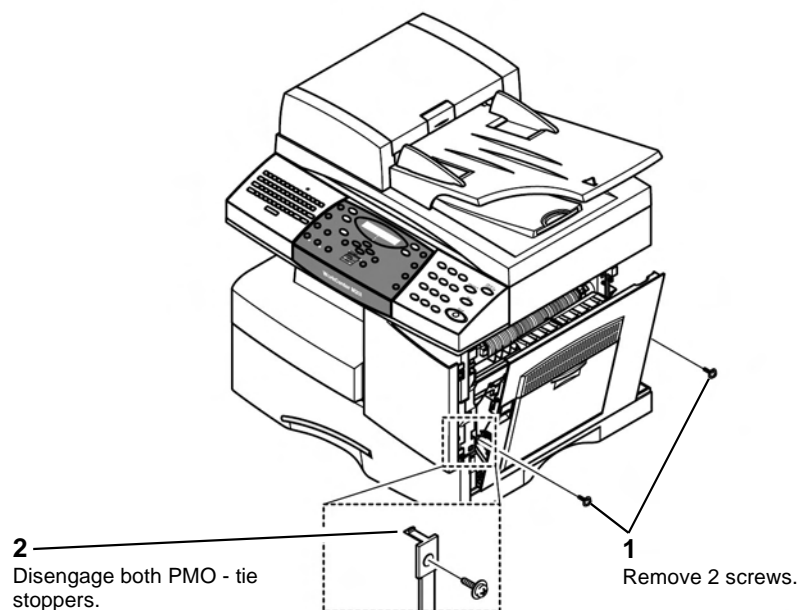

Figure 1 Preparation
NOTE: The M20F and 4118 procedures are the same. The M20F is shown in Figure 1 and Figure 2.
1. Prepare to remove the ELA HOU - side cover assembly, Figure 1.